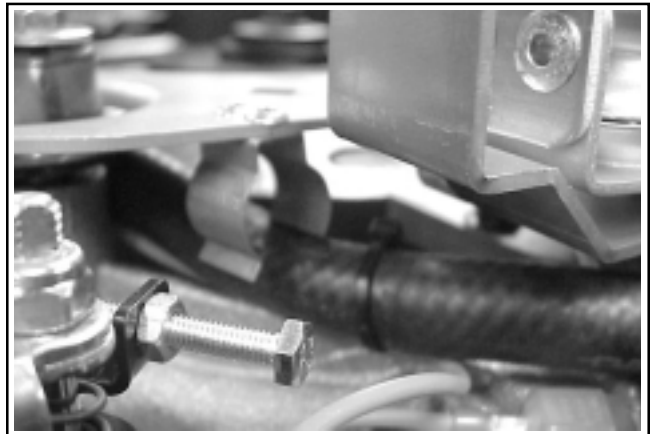

Figure 9-34. Unseating By-pass Hose.
4. Pull the by-pass hose out of the retaining clip beneath the main support bracket. See Figure 9-34.